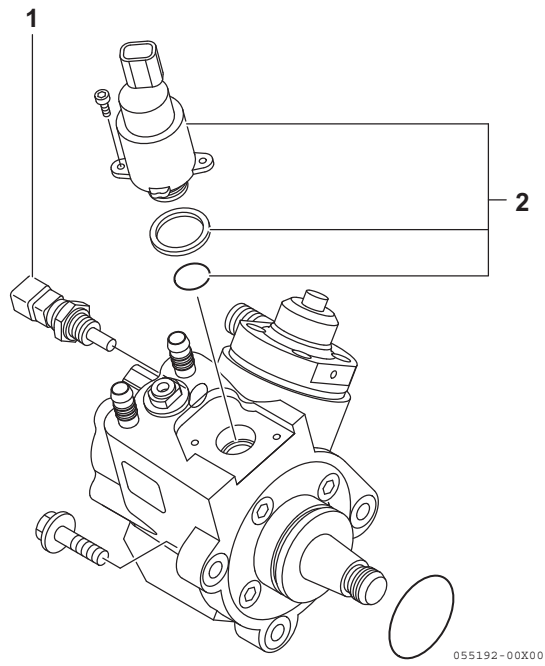

Figure 7-13
Spare parts for the fuel temperature sensor (**Figure 7-13, (1)**) and the fuel metering valve (suction control valve) (**Figure 7-13, (2)**) are available for replacement. See the below table for the part number and the tightening torque.